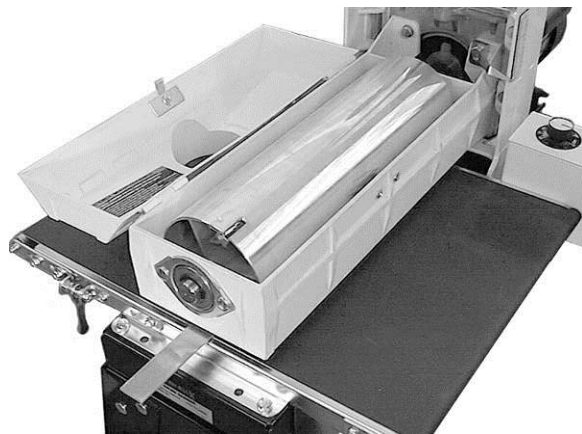

Figure 23
7. Lay the thickness gauge under the drum lengthwise. See Figure 23. Rotate the fine tune adjustment knob (B, Fig. 22) until the drum contacts the gauge equally along its entire surface. Rotate the knob clockwise to raise the outboard end of the drum, counterclockwise to lower the outboard end of the drum. Use the height adjustment handwheel to raise or lower the entire drum.
5. Tighten the four screws (A, Fig. 23).